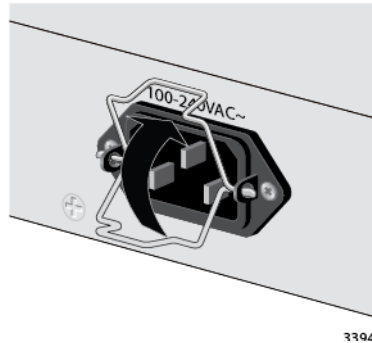

Figure 45. Raising the Retaining Clip
2. Raise the retaining clip. See Figure 45.